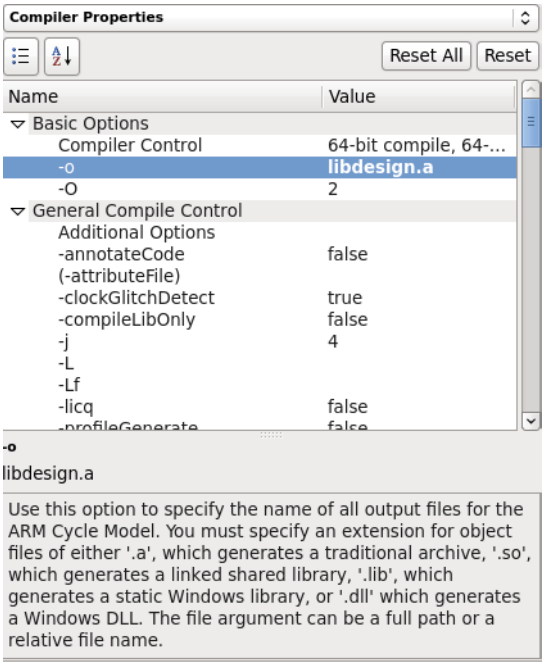

Figure 3-13 Cycle Model Compiler Properties Window
2. In the Compiler Properties panel (Figure 3-13), set the desired option values. A brief description of each option appears at the bottom of the view in the Parameter Help Window. See Chapter 3 of the *Cycle Model Compiler User Manual* for more detailed information.